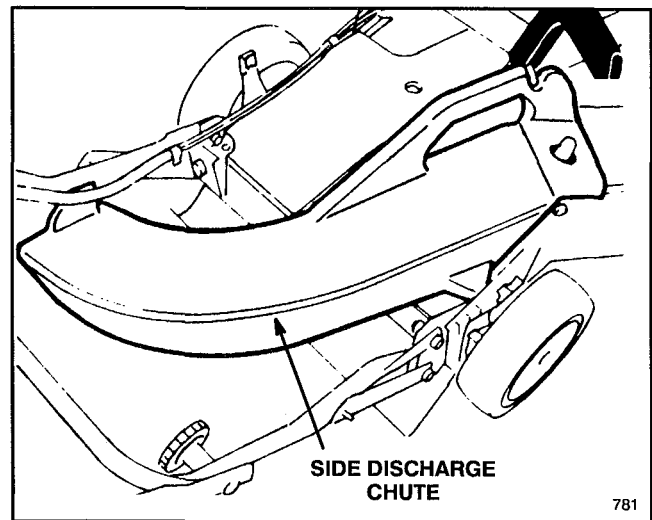

Figure 37
2. **Side Discharge Kit, Model No. 59113**—Installs in seconds. Rear mounted in place of the grass bag. Disperses clippings while trimming on both sides (Fig. 37).